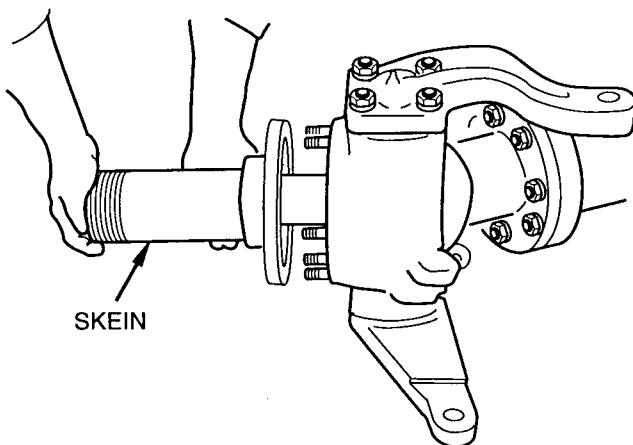

Figure 29 Installing the Skein
32. Coat all mating surfaces of skein (33) and ball socket (16).
33. Install skein (33) onto ball socket (16). (See Figure 29).